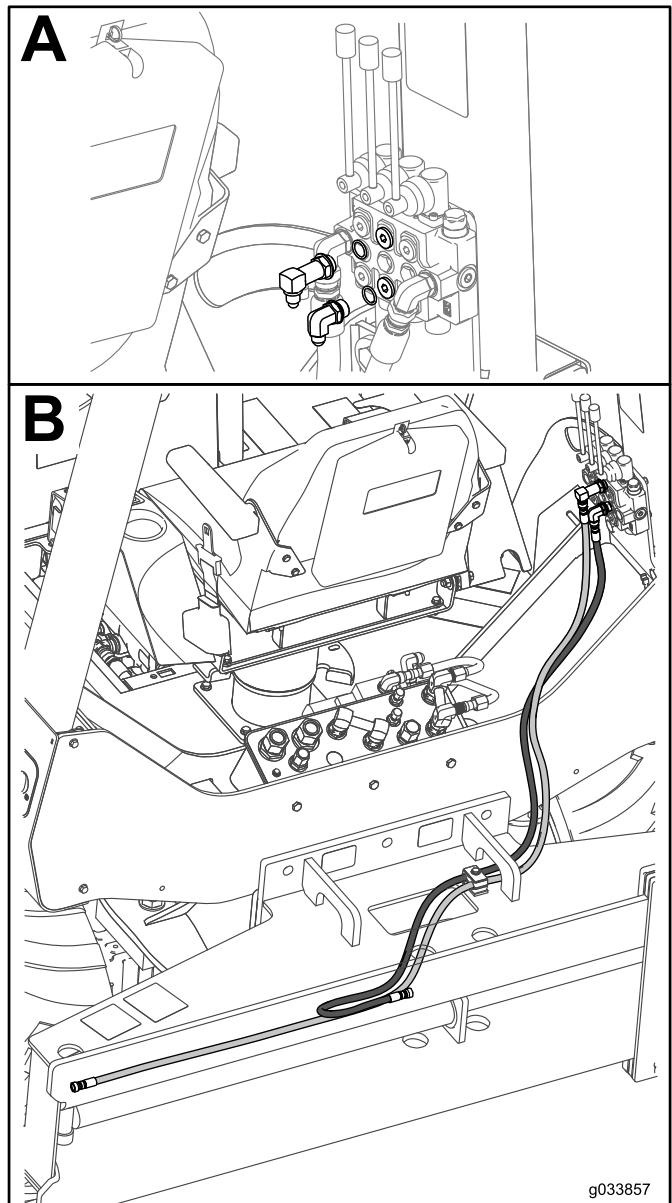

Figure 6
1. Install the larger fitting and O-ring onto the top center port on the hydraulic valve as shown in Box A of Figure 6.
2. Install the smaller elbow fitting and O-ring onto the bottom center port on the hydraulic valve as shown in Box A of Figure 6.
3. Install the hose that is coming from the center of the hydraulic cylinder to the bottom 90-degree fitting as shown in Box B of Figure 6.
4. Install the hose that is coming from the end of the hydraulic cylinder to the top 90-degree fitting as shown in Box B of Figure 6.